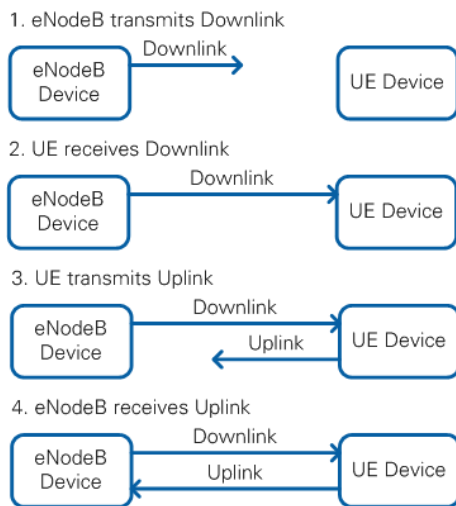

Figure 15 Establishing a DL and UL Connection between eNodeB and UE
- d. Within that project, open the LabVIEW top-level host VI for the eNodeB operation mode, **eNodeB Host.gvi** in **eNodeB Host.gcomp**. The front panel of this VI is shown in Figure 15.